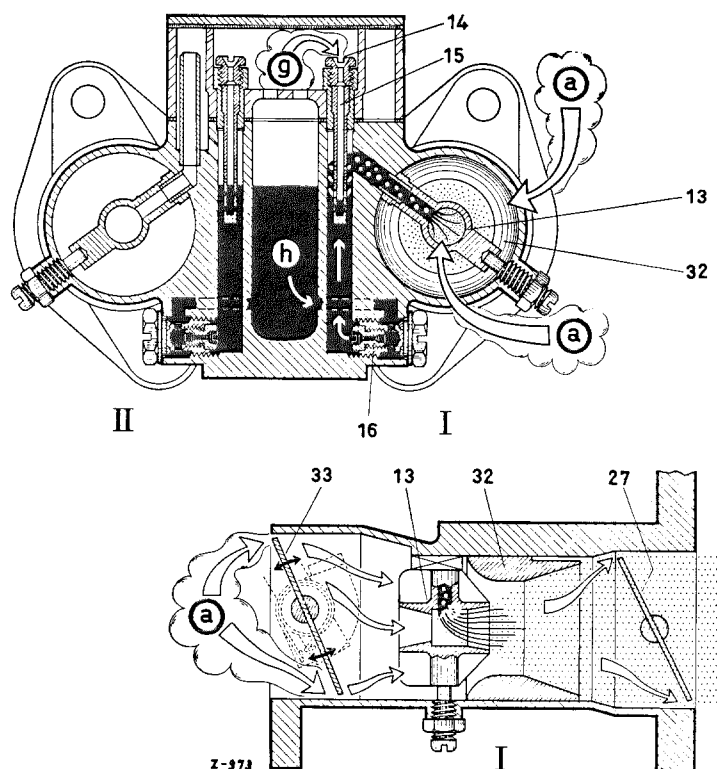

Fig. 07-0/38
d) When the starter mechanism is inoperative, there must be a clearance of approx. 0.4 mm between the adjusting screw (39) on the throttle valve lever and the relay lever (41) when the carburetor linkage is in the idle position. The tension spring must press the relay lever against the cam plate of the choke valve lever (see Fig. 07-0/35).
When the engine is being started, the closed choke valve (33) produces an effective vacuum in the diffuser (13) of stage 1, so that sufficient fuel is drawn from the main supply system to provide a mixture rich enough to start the engine cold. When the engine has started, the pressure flow regulates the opening of the choke valve (33) against the pressure of the coil spring, with the result that the combustion air necessary for the start mixture can enter (Fig. 07-0/38).